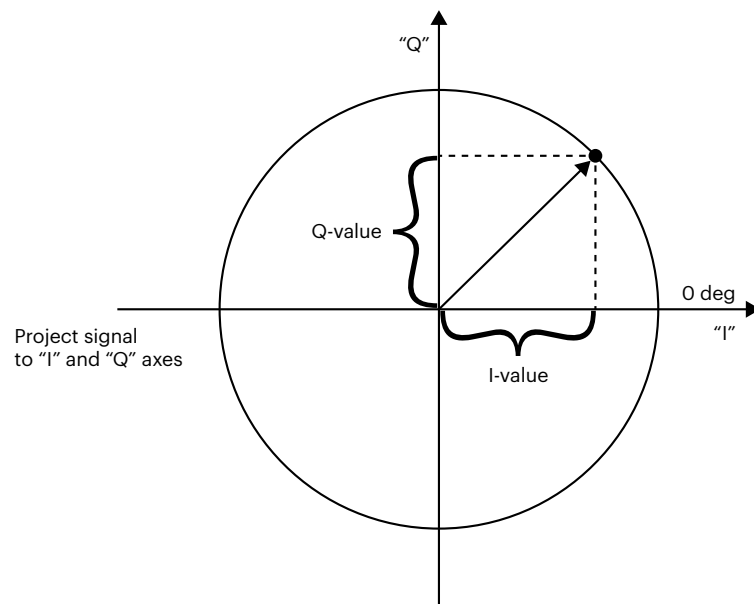

Figure 5.1. IQ phasor diagram
The basic modulation schemes are amplitude, frequency, and phase modulation. Modulating signals can be expressed in the polar form (vector) with magnitude and phase. Digital communication often uses IQ modulation because of its spectrum efficiency. IQ modulation uses two carriers. One is known as the in-phase (I) component, and the other is the quadrature (Q) component, which phase-shifts by 90 degrees from the in-phase component, as shown in Figure 5.1.